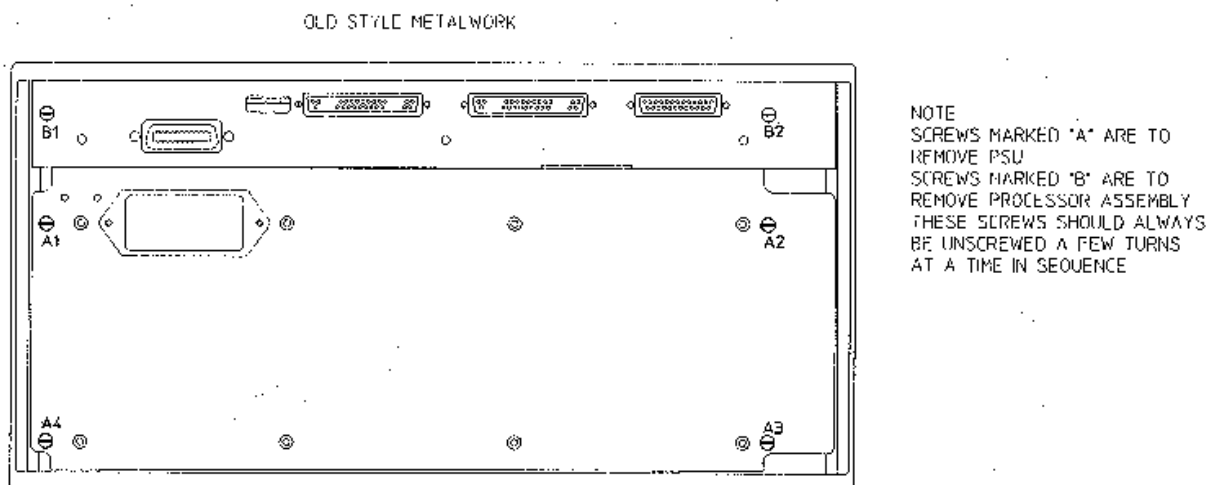
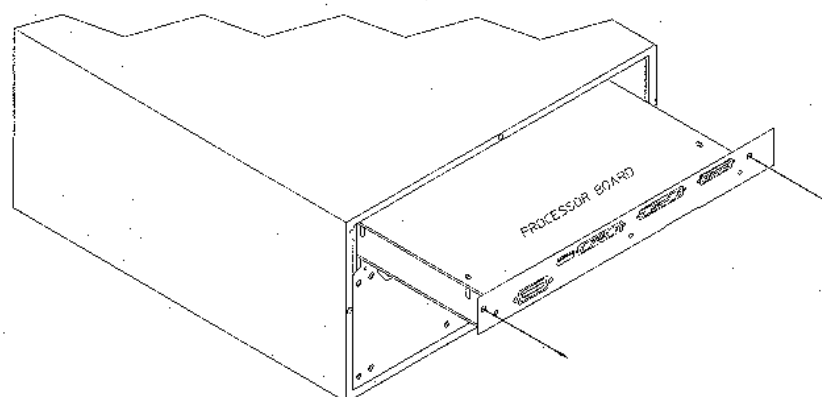

Figure 4
Figure 5
3. Refer to FIG 4 and note screws B1 and B2. These screws should be loosened a few turns each alternately until the Processor assembly can be removed from the 70843A/B chassis (FIG 5).
4. Refer to FIG 4 and note screws A1 thru A4. These screws should be loosened a few turns each in sequence until the PSU module can be removed from the 70843A/B chassis (FIG 6).